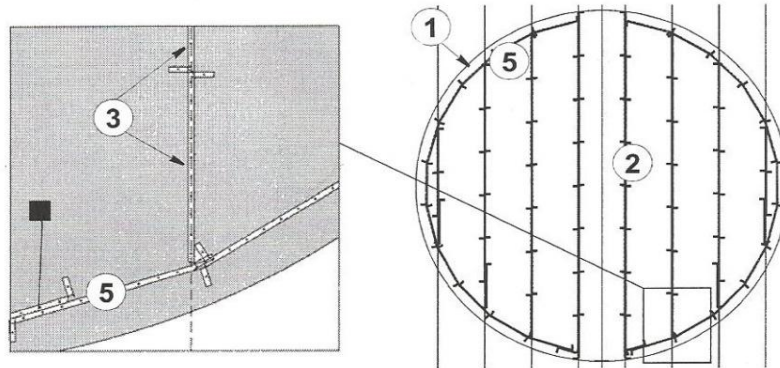

Figure 18. Option 1: LONG Supports Fill Chalkline
1. The Support Row ends **exactly** with all LONG Supports, or one SHORT Support at the end. The end Leg is bent as necessary to meet the Outer Half Circle. **Do not** use two(2) SHORT Supports together to end a Row. See **Figure 18,19**.